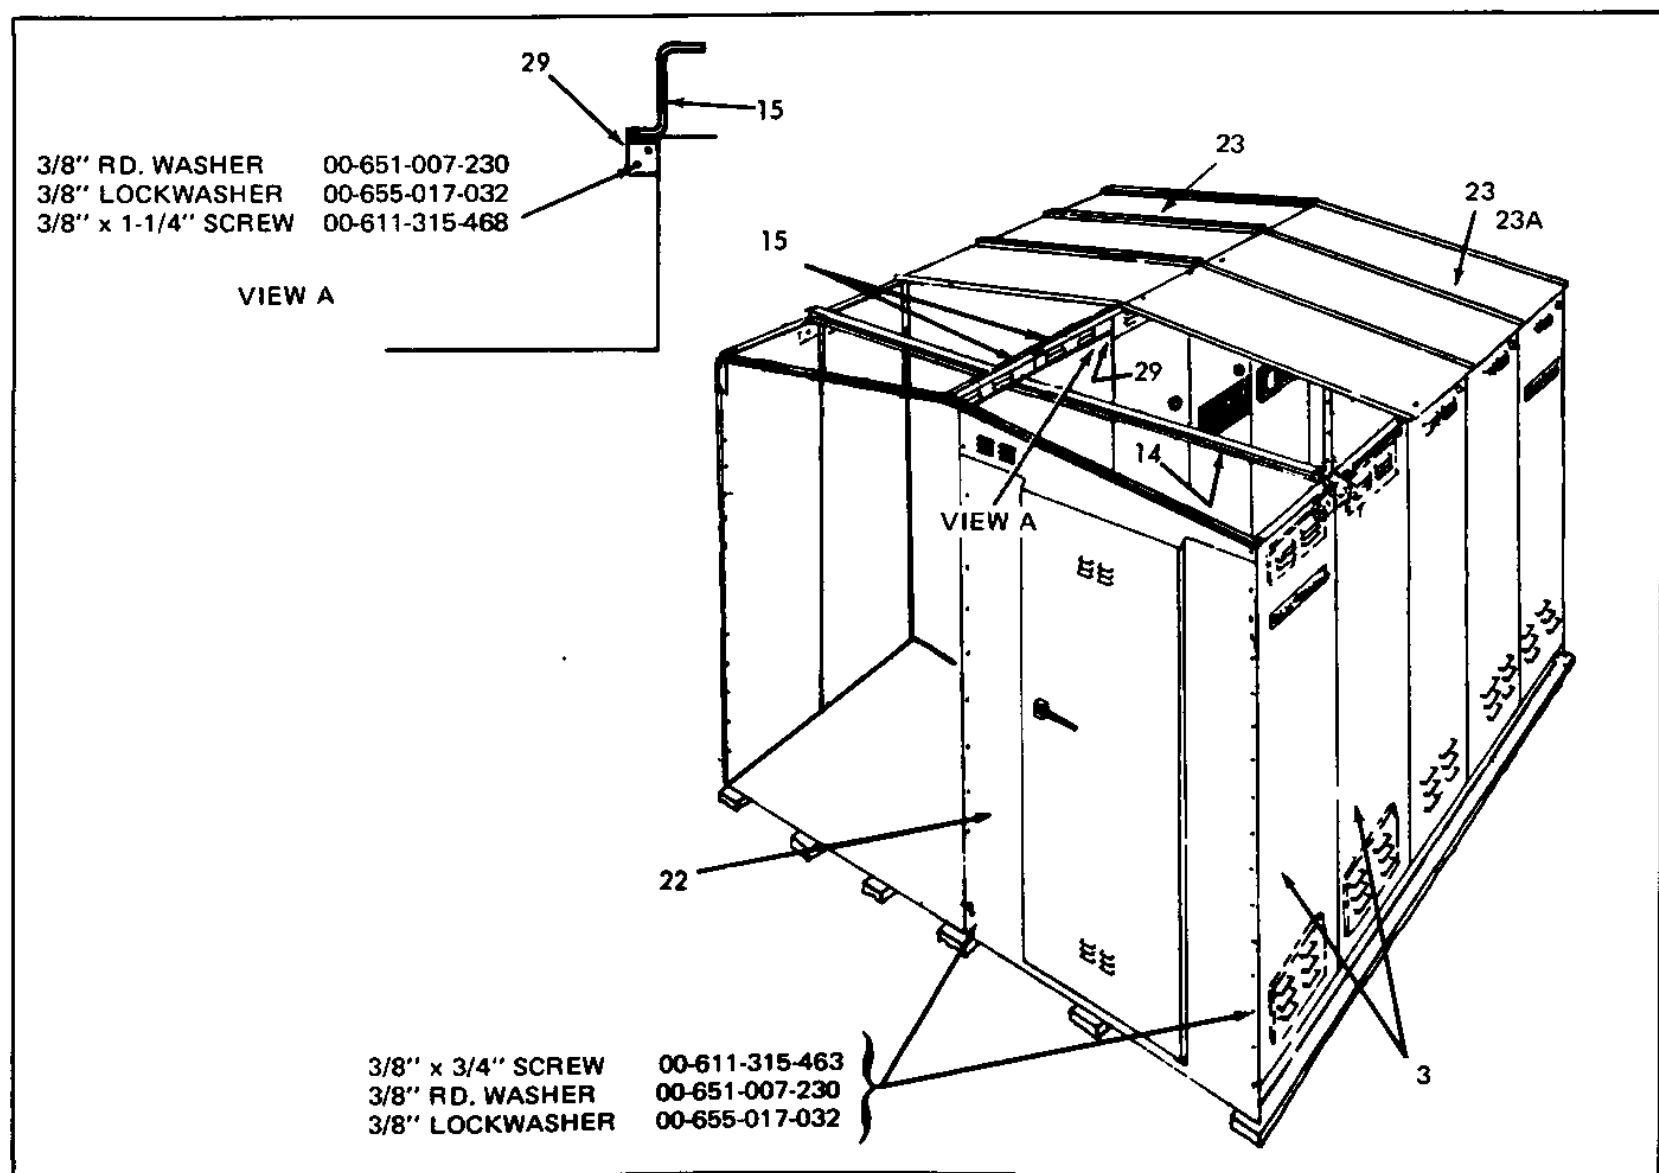

Figure 43. Door and Roof Support Installation (15 KV) - Single Aisle with Work Space
13. See Figure 43. Position and bolt the door frame assembly (22) into place. Apply 1/2-inch sealant tape so that one edge is on vertical centerline of mounting holes and other edge is toward point of weather exposure.